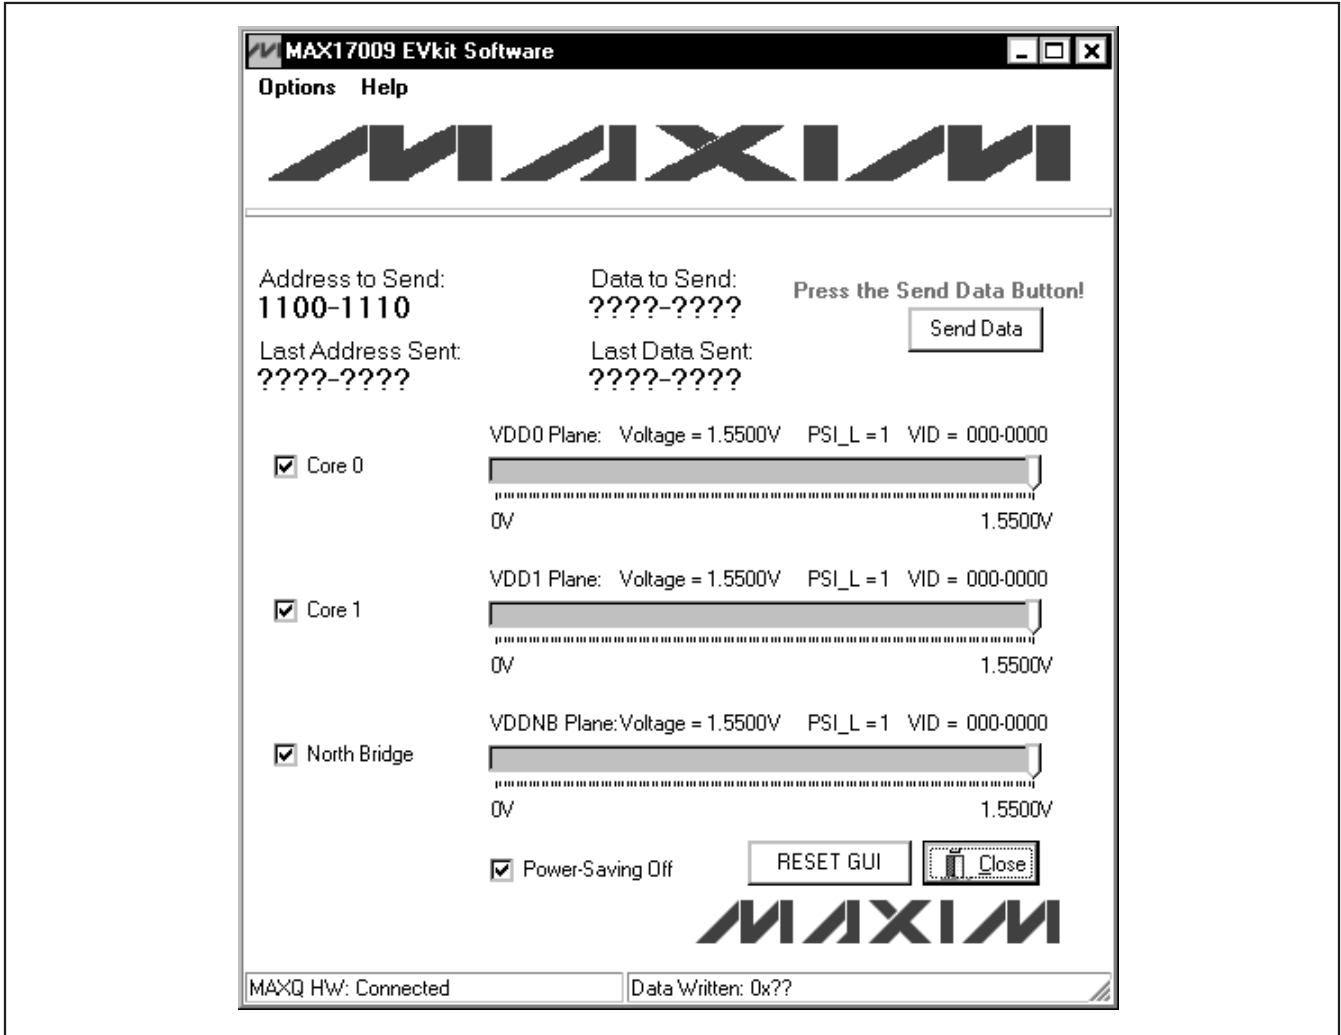

Figure 1. MAX17009 EV Kit Software Main Window
- 9) Start the EV kit software by opening its icon in the **Start | Programs** menu. The EV kit software main window should appear, as shown in Figure 1.
The main window of the evaluation software (Figure 1) displays **Address to Send**, **Data to Send**, **Last Address Sent**, and **Last Data Sent** status. In addition, the GUI allows the user to select **Core 0**, **Core 1**, and/or **North Bridge** outputs.